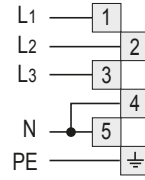

Fig. 2.2
- Position the U bolts “F” onto terminal board “G” (fig. 2.3) according to the diagrams in fig. 2.2.
- Connect the phase and earth wires to terminal board “G” according to the diagrams in fig. 2.2.